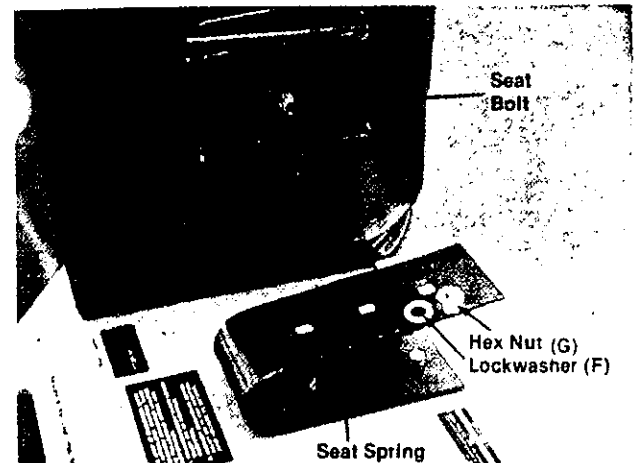

FIGURE 4. SEAT ASSEMBLY
Place seat on spring and secure with lockwasher (F) and hex nut (G). See figure 4.